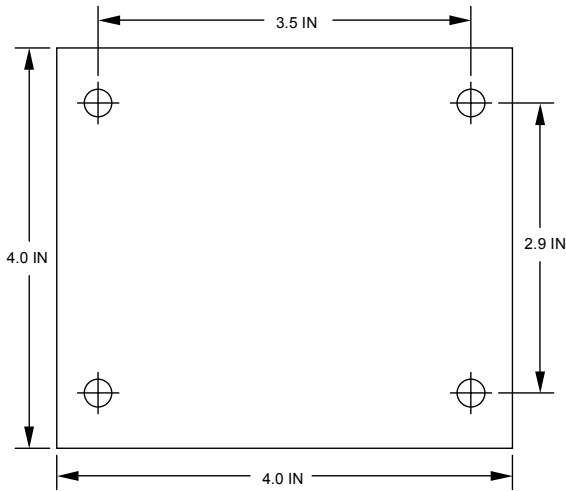

Figure 2: Standoff Hole Placement
4. Using the dimensions provided in Figure 2, drill four 0.150" diameter holes at the specified locations on the panel. As a convenient pattern guide, the unit with attached mounting standoffs can be held against the panel, and the four standoff locations marked with a pencil or scribe.